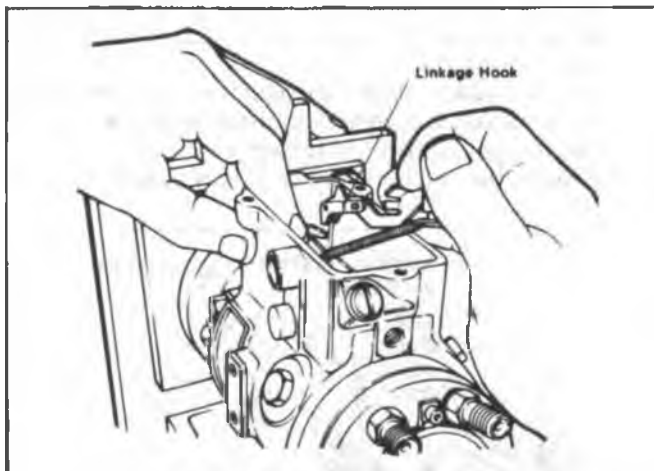

Fig. 2-26 Linkage Hook Assembly
12. Lift up the governor linkage hook assembly and remove the metering valve. (NOTICE: DO NOT DISTURB LINKAGE HOOK ADJUSTMENT.) (Figs. 2-26 and 2-27).
14. Hook the governor linkage assembly to the metering valve (Fig. 2-26). Check linkage for freedom.